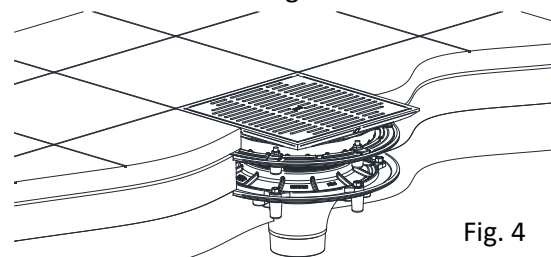

Fig. 4
Step 13 – Complete construction of the promenade deck surface as required so that finished roof surface is flush with top of frame. (Fig. 4)